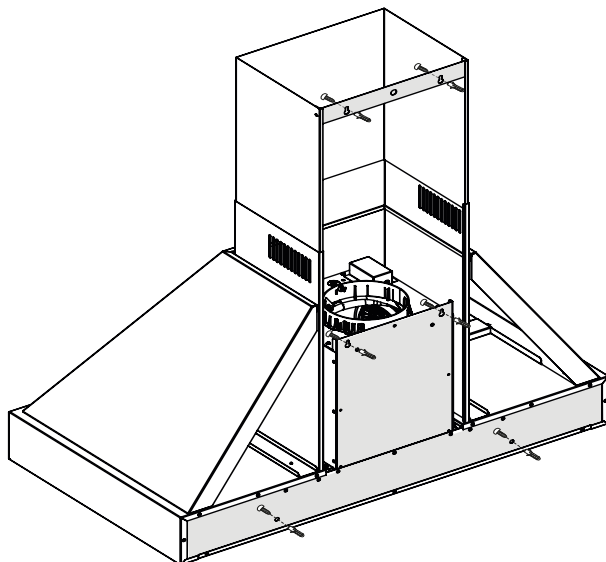

Fig.5
- 5) To secure the hood use the inserts (see Figure 5).